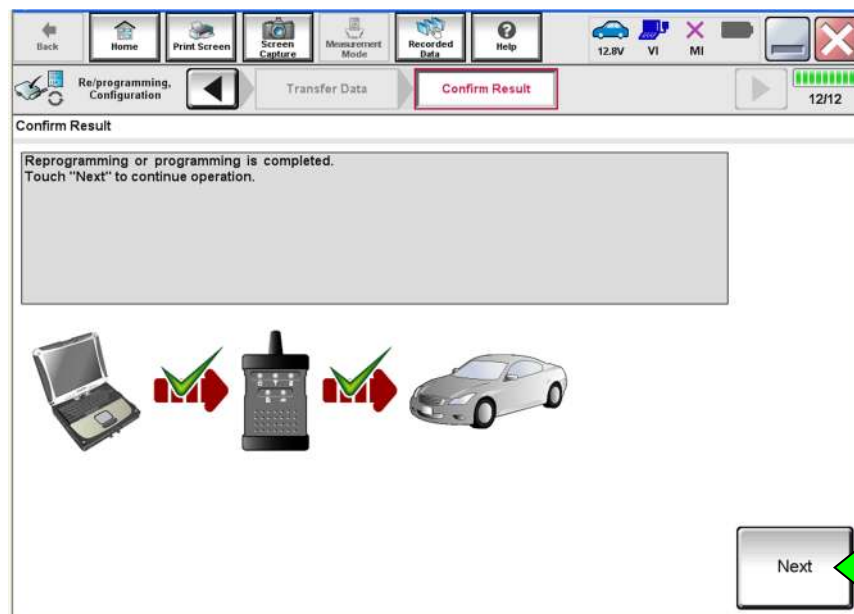

Figure 24
- When the screen in Figure 24 displays, the reprogramming is complete.
- If the screen in Figure 24 does not display (indicating that reprogramming did not complete), refer to Sonar Control Unit Recovery on the next page.